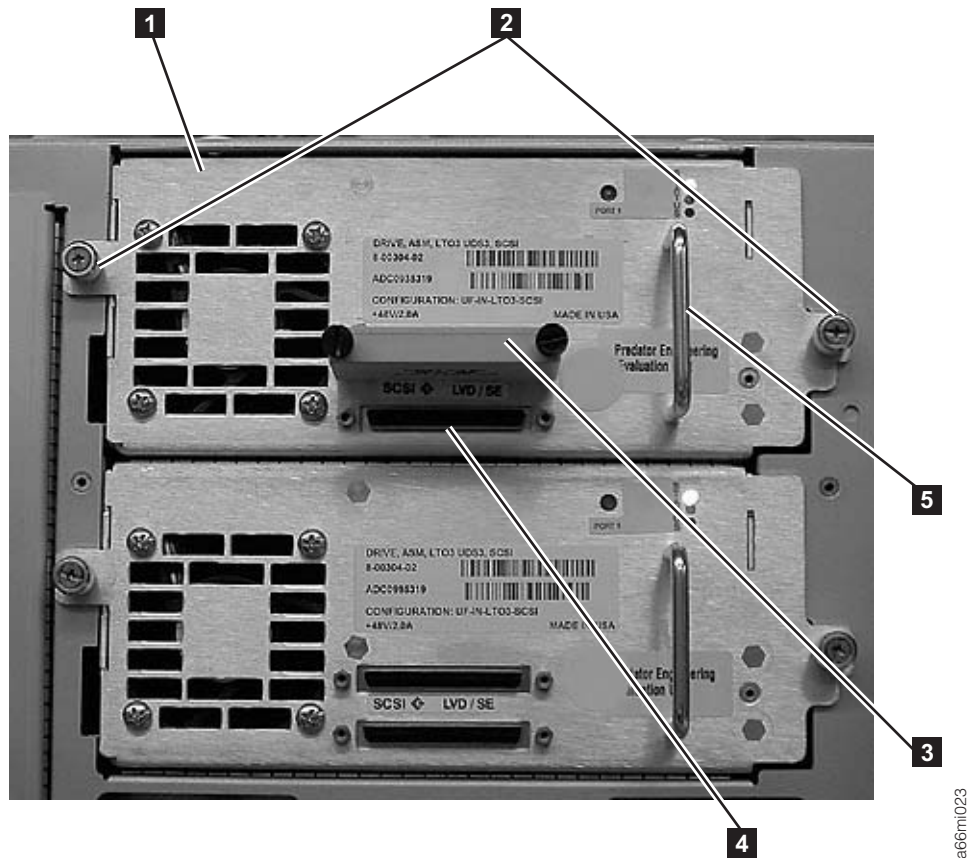
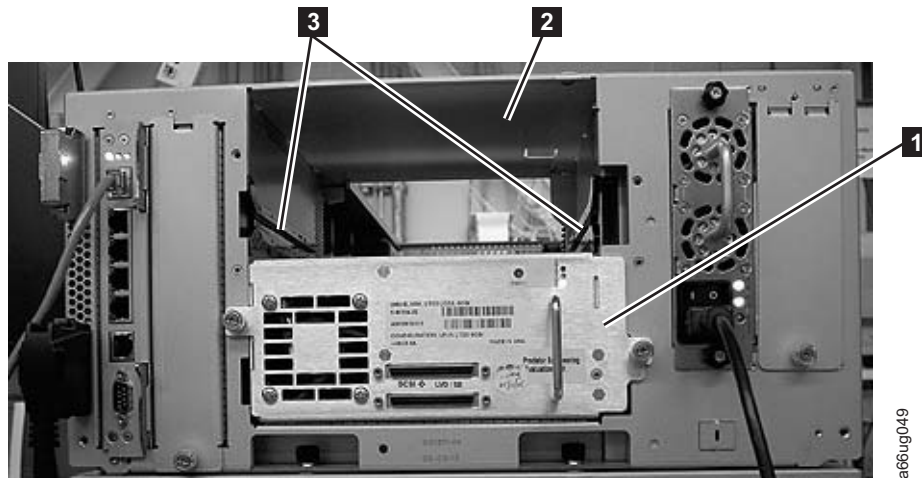

Figure 12-24. Tape drive (detail)
Figure 12-26. Tape drive slot
3. Loosen the two thumb screws (2 in Figure 12-24) that hold the drive in place by turning them counterclockwise.
4. Slide the drive out of the library module. Grasp the handle (5 in Figure 12-24) and slowly pull the drive toward you, while the tape drive is supported from underneath.
5. Loosen the two thumb screws (**2** in Figure 12-24 on page 12-25) that hold the drive in place by turning them counterclockwise.
6. Slide the drive out of the library module. Grasp the handle (**5** in Figure 12-24 on page 12-25) and slowly pull the drive toward you, while the drive sled is supported from underneath.
7. Align the drive with the guide rails and guide slots along the tracks (**3** in Figure 12-26 on page 12-27) in the open drive sled slot (**2** in Figure 12-26 on page 12-27). Grasp the handle (**5** in Figure 12-24 on page 12-25) and slowly slide the tape drive into the library, while the drive is supported from underneath.
8. Tighten the 2 thumb screws (**2** in Figure 12-24 on page 12-25) that hold the drive sled in place by turning them clockwise.
- a. For a SCSI tape drive, plug the cable and terminator into the drive. Tighten the thumb screws that hold the SCSI cable (**4** in Figure 12-24 on page 12-25 shows the SCSI receptacle) and terminator (**3** in Figure 12-24 on page 12-25) in place by turning them clockwise.